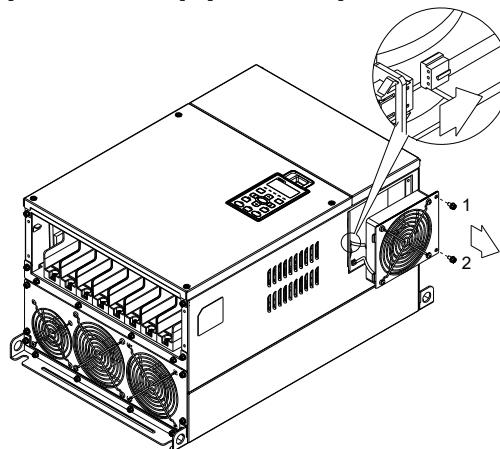

Figure 3
1. Loosen screw 1~2 (figure 3) and disconnect fan power and pull out the fan. (As shown in the enlarged picture 3) Screw1~2 Torque: 24~26 kg-cm / [20.8~22.6 lb-in.] / [2.4~2.5 Nm]